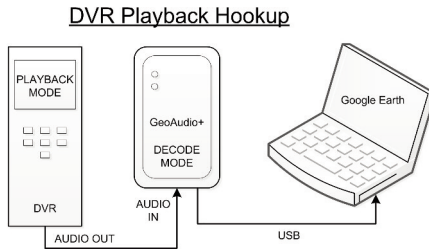

Figure 7.0 – DVR Playback Hookup
- Option #3 (see Figure 7.0) - use the supplied 6' 3.5 mm audio cable and 6' USB A-Male to Mini-B cable to connect the DVR, GeoAudio+, and the user's PC.